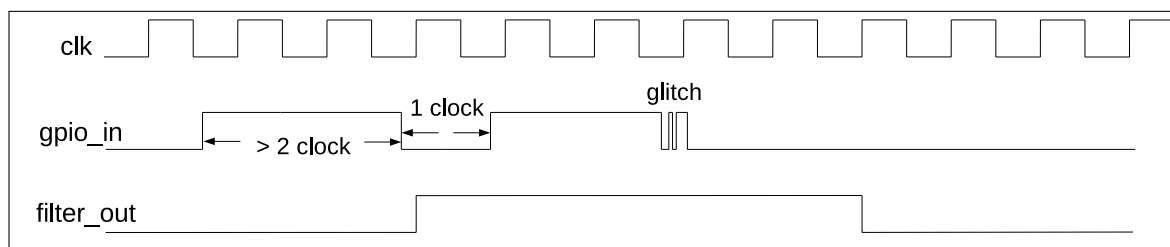

Figure 6.4-2. Filter Timing of GPIO Input Signals
2. Optionally enable the filter for pin input signals by setting the register `IO_MUX_FILTER_EN`. Only the signals with a valid width of more than two APB clock cycles can be sampled, see Figure 6.4-2.